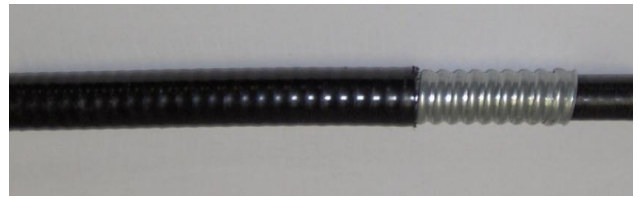

Figure 6
8.2.2 Dash -2 tube cable Part Numbers identify a tube cable with a ruggedized Interlocked Galvanized Steel wrap with a Polyethylene (PE) outer jacket. The Dash -2 designs are typically used in outdoor applications with all Dielectric and Metallic tube cable designs. **See Fig. 6.**